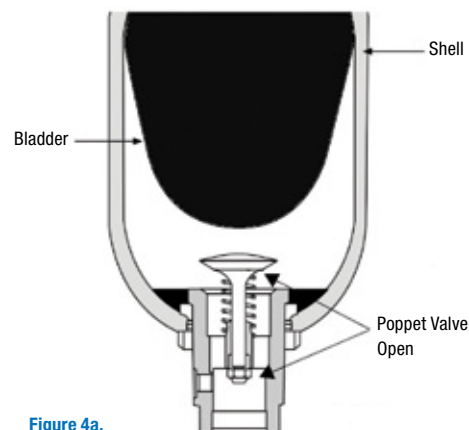

Figure 4a.
B. Check to make sure that the poppet valve located in the Fluid Port is fully in the open position. (see Figure 4a.)